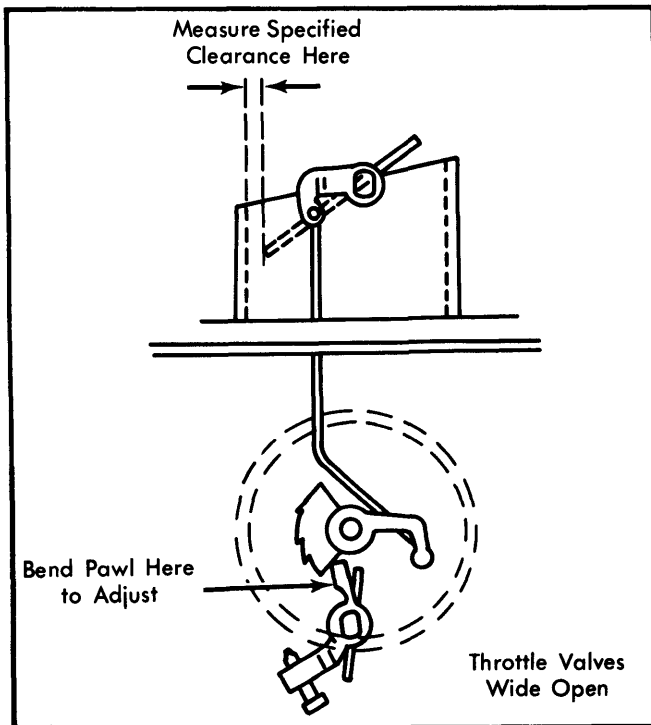

Fig. 6 Choke Unloader Adjustment
- 1) Hold throttle valves wide open. Apply light closing pressure on choke valve. See Fig. 6.